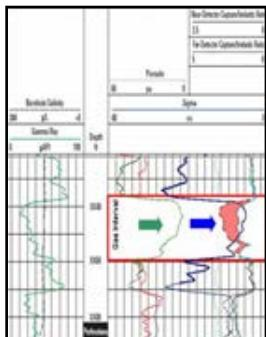

Figure 3: Pulsed Neutron Log (Σ) and NPHI Response in Gas
- Near and far count rates are scaled to overlay in water bearing zones with little or no separation. In case of gas, far will strongly move to the left of near, Figure 3